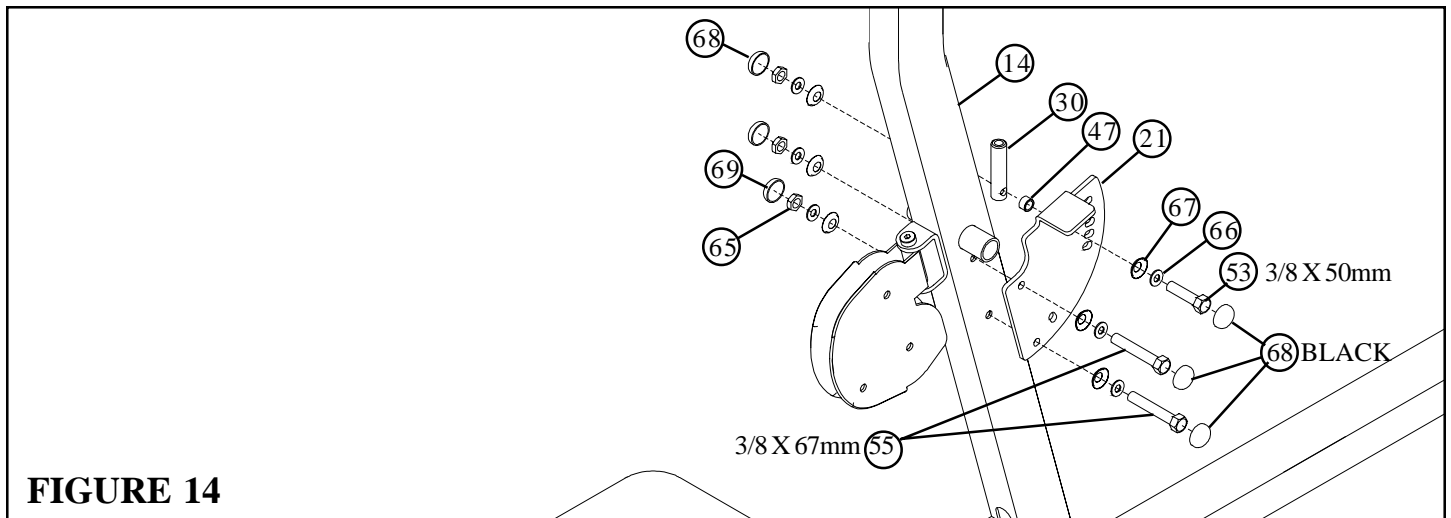

FIGURE 14
- **SECURELY** assemble the LAT/LOW ADJUST PLATE (21) to the LAT/LOW FRAME (14) using two BLACK RH CAPS (68), two RH CAPS (69), two 3/8 X 67mm BOLTS (55), four 3/8 SAE WASHERS (66), four 3/8 RH WASHERS (67) and two 3/8 LOW HEIGHT LOCK NUTS (65) as shown in FIGURE 14.
- Assemble the 3/4 X 3-1/8 TAPPED SHAFT (30) to the LAT/LOW ADJUST PLATE (21) using two BLACK RH CAPS (68), one 3/8 X 50mm BOLT (53), two 3/8 SAE WASHERS (66), two 3/8 RH WASHERS (67), one 3/8 X 1/2 SPACER (47) and one 3/8 LOW HEIGHT LOCK NUT (65) as shown in FIGURE 14. (NOTE: Tighten connection enough to remove play, yet allowing TAPPED SHAFT to rotate freely.)